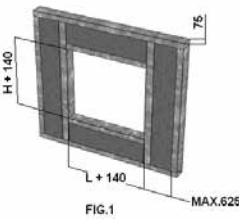

FIG.1
- 3 - Fill in the spaces inside the metal structure using mineral wool which 60 mm thick and has a minimum density of 100 kg/m³ (fig.1)